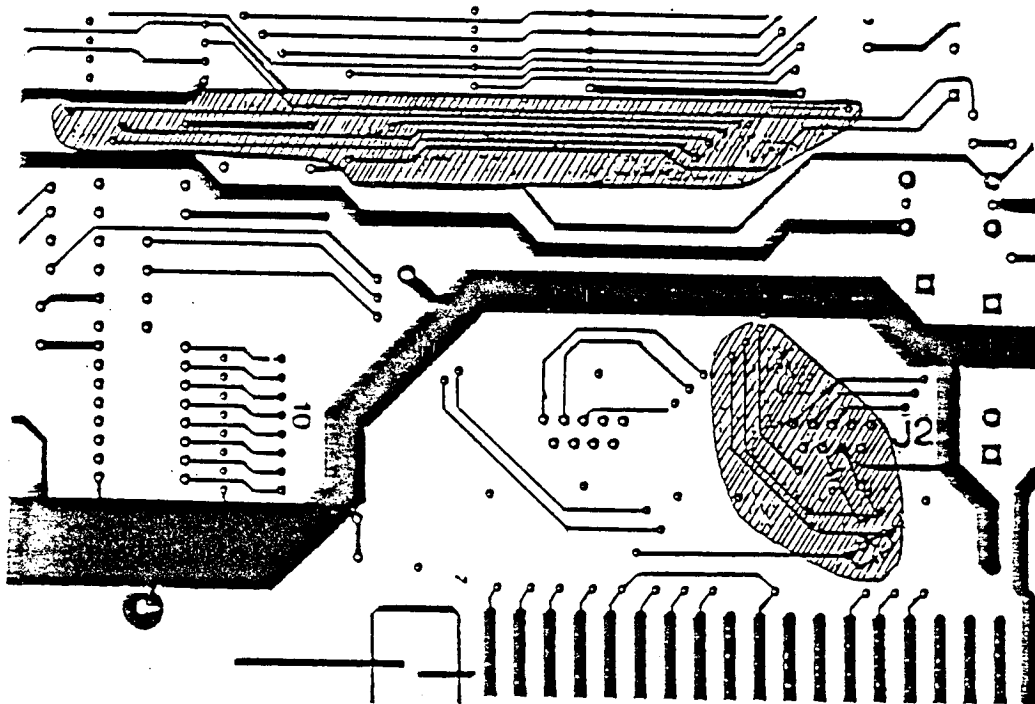

Figure 3-3. Mask Placement
- E. Coat the areas shaded on the top of the PCB (as illustrated in Figure 3-3) with masking compound.